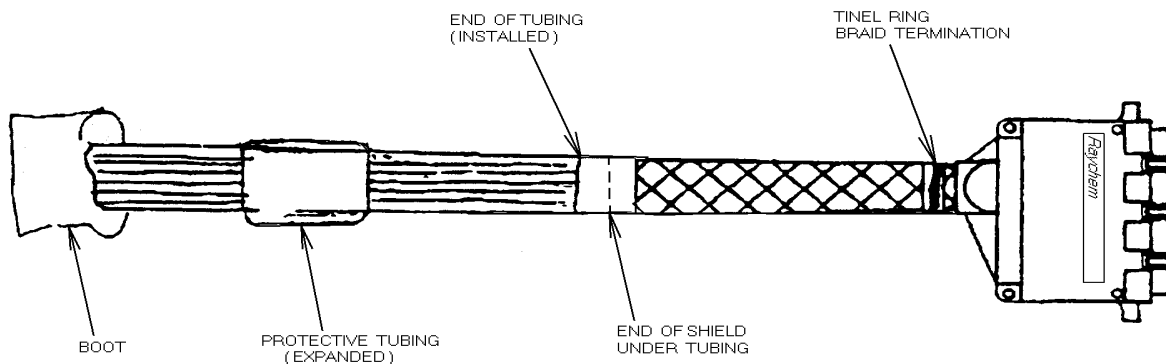

Figure 5-12. Positioning Tinell Ring and Shrinking Tubing and Boot.
3. Position the braid over the end of the adapter (Figure 5-12).